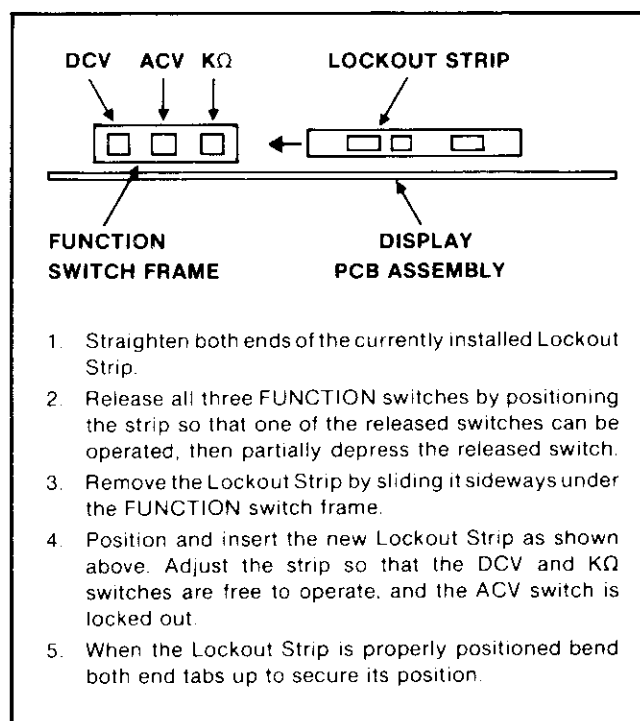

Figure 607-1. Installing the Lockout Strip
2. Determine the measurement functions that will be available when the Ohms Converter is installed; i.e., DCV and k $\Omega$  or DCV, ACV and k $\Omega$ . If ACV is not available, prepare and install the Lockout Assembly as shown in Figure 607-1. If the True RMS/AC Converter (Options -009/-008) is installed, the Lockout Assembly is not required. In this case, complete only steps 1, 2, and 3 of Figure 607-1.